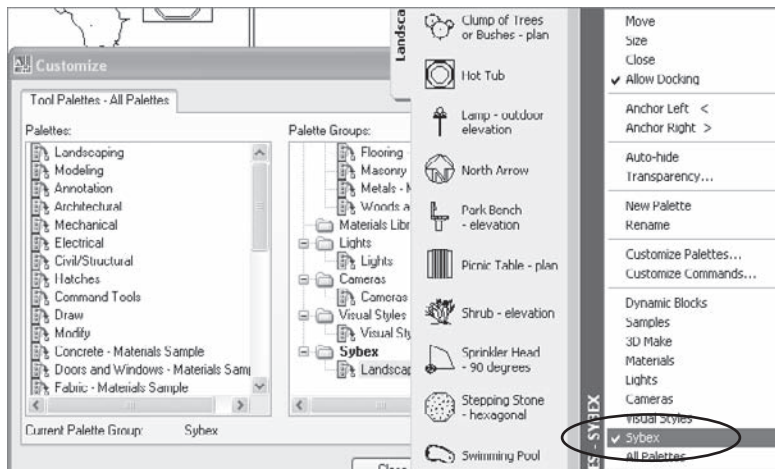

Figure 3.6
5. Right-click the title bar of the tool palette, and select only your new group for display. Doing so turns off the 30 tool palettes that ship with AutoCAD 2007. (See Figure 3.6.)